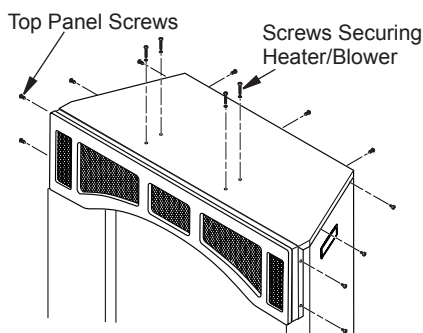

Figure 11 - Removing Top Panel and Heater/Blower
2. Remove screws from around top panel of firebox (see Figure 11).
5. Remove screws holding heater/blower to top panel (see Figure 11).